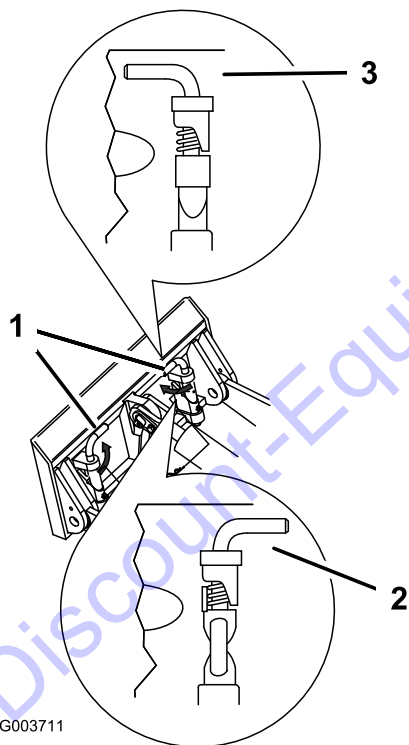

Figure 11
- Engage the quick-attach pins, ensuring that they are fully seated in the mount plate (Figure 11).